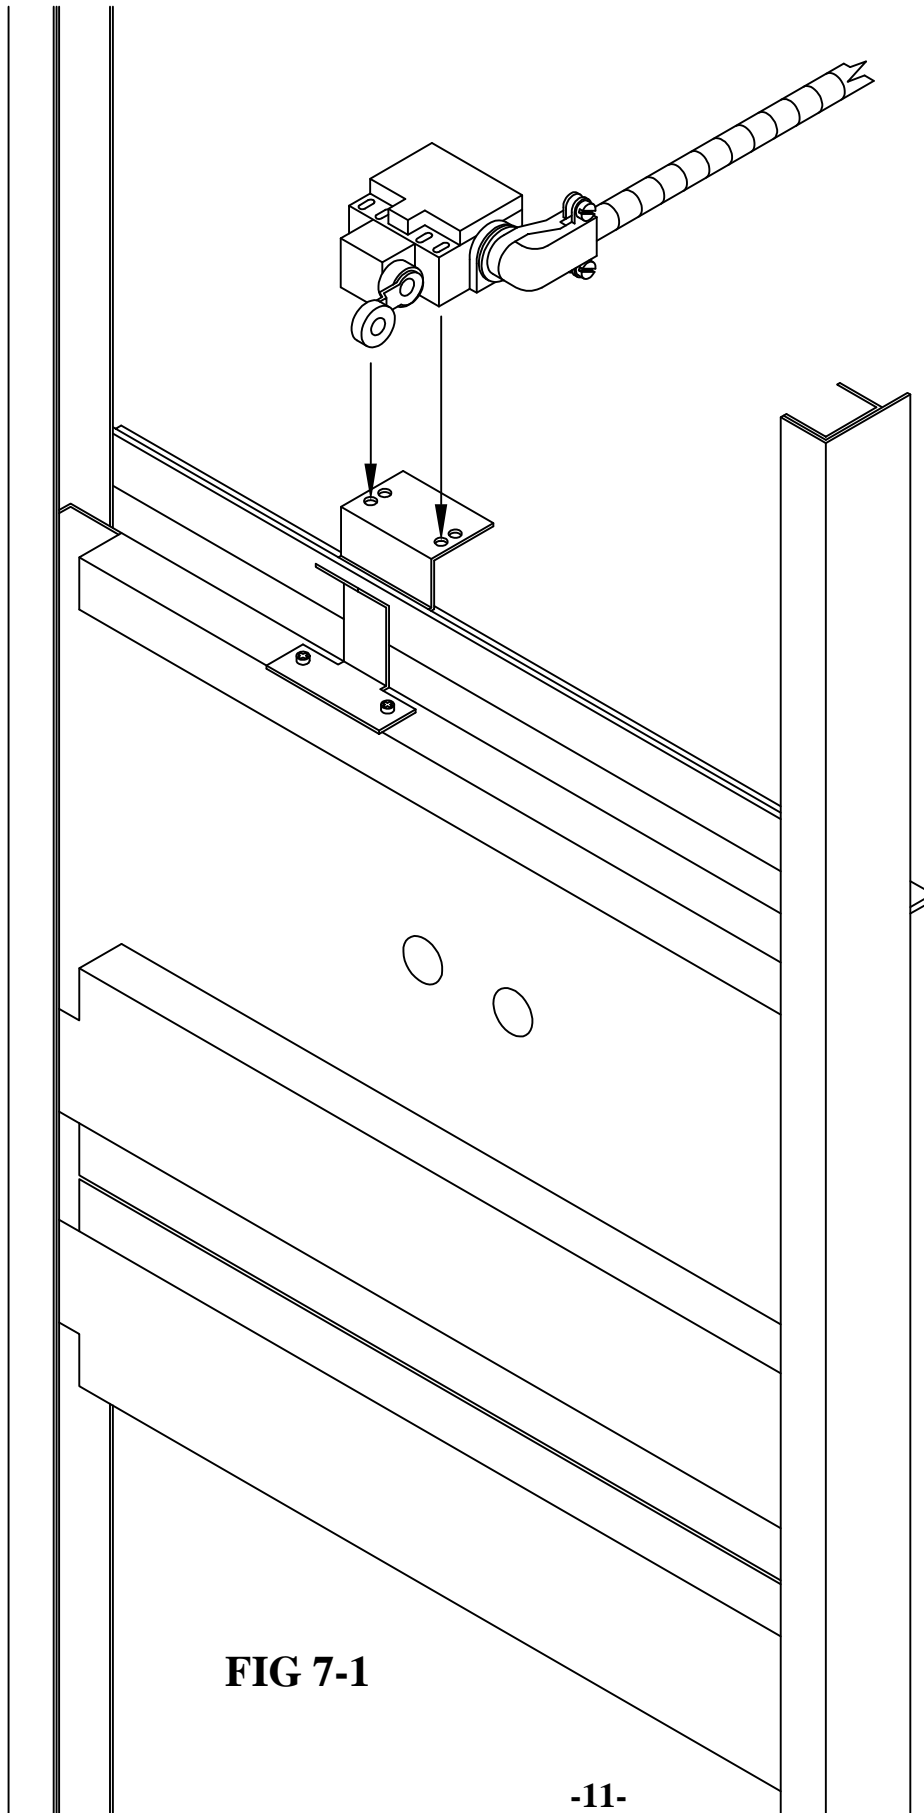

FIG 7-1
- 7c.** Mount the gate switch to the mounting bracket that is attached to the gate tie angle. If the switch is not mounted, a hazard exists, as a key element of the safety circuit will not function correctly. **See Fig 7-1**
- 7h.** Mount the gate switch to the mounting bracket that is attached to the gate tie angle. If the switch is not mounted, a hazard exists, as a key element of the safety circuit will not function correctly. **See Fig 7-1**